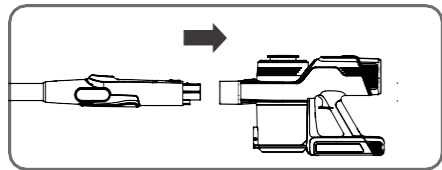

Figure 2
- To remove the aluminum tube, hold the main body with one hand and pull it out with the other hand while pressing the button. (Figure 2)